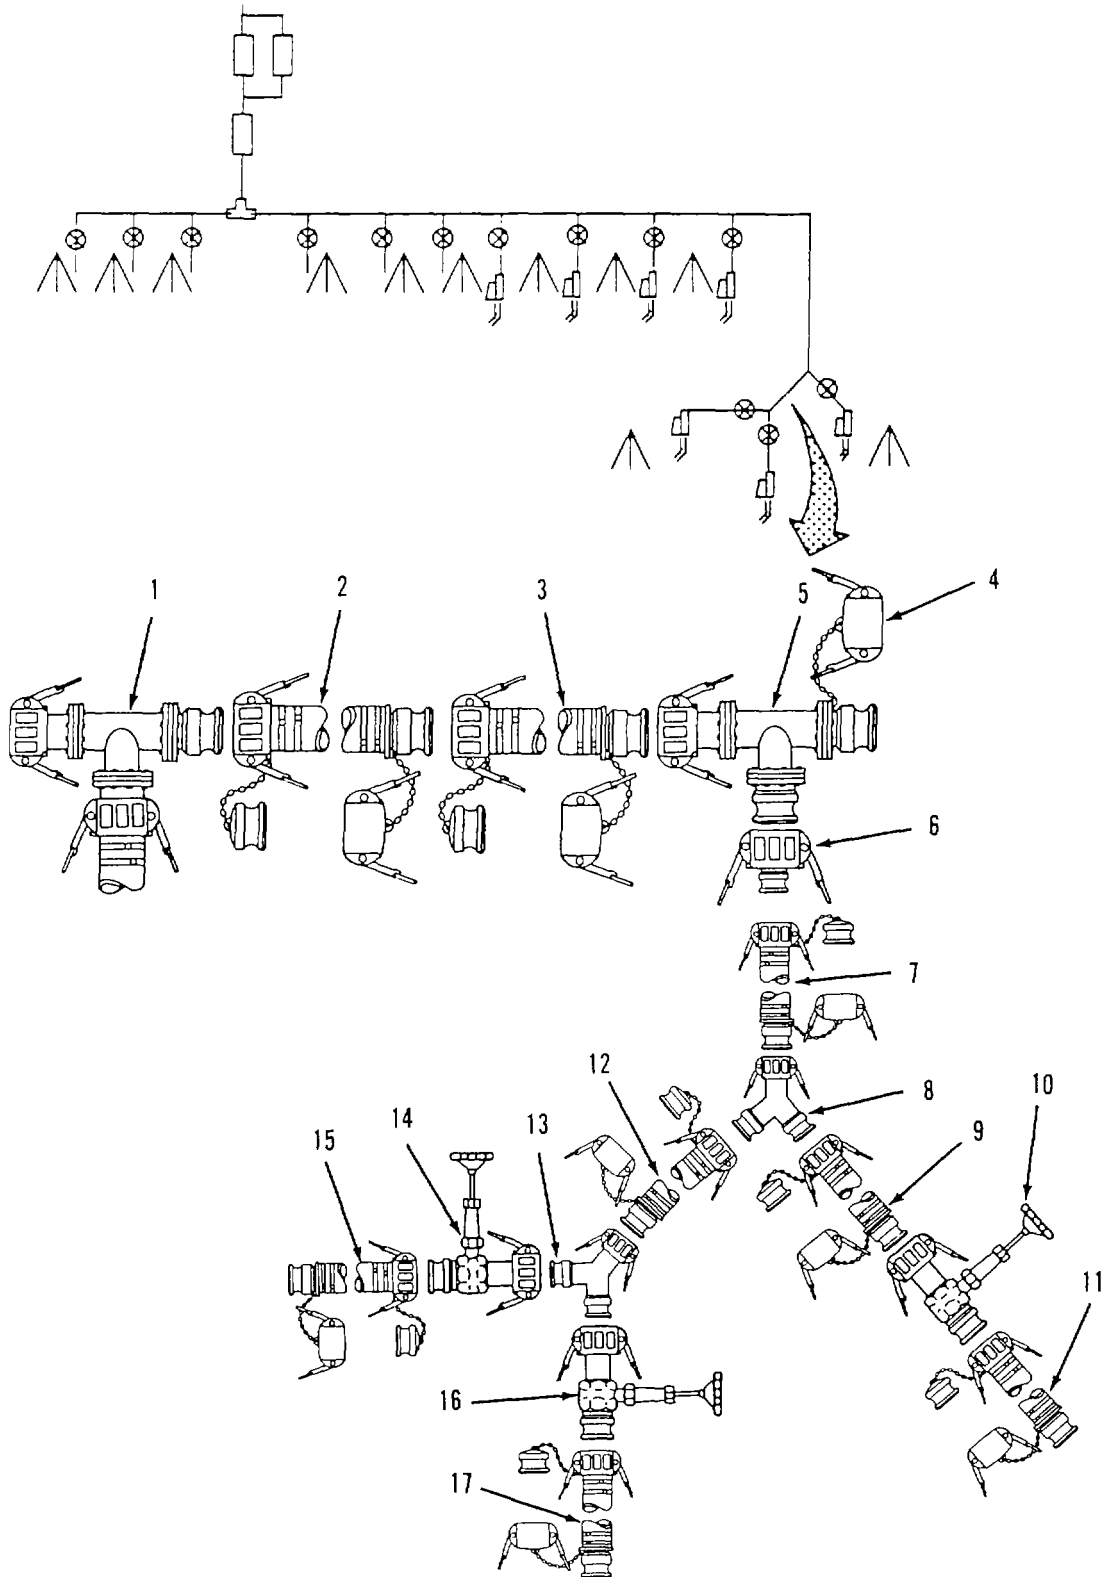

Figure 2-27. Bag Filter Connection Kit Disassembly.
- (4) Disconnect regulator (5) from 1 inch x 10 foot discharge hose (4).
- (5) Disconnect two 1 inch x 10 foot discharge hoses (3 and 4) from adapter (2).
- (6) Disconnect adapter (1-½ inch female x 1 inch male) (2) from 1-½ inch x 25 foot discharge hose (1) (from bag filler connection kit).
- (7) Repeat steps 1 through 6 for remaining hose and nozzle kits.
- (8) Drain and allow components to dry.
- (9) Install caps and plugs on couplings (para 2-10c).
- c. Disassemble Bag Filler Connection Kits. Refer to figure 2-27.